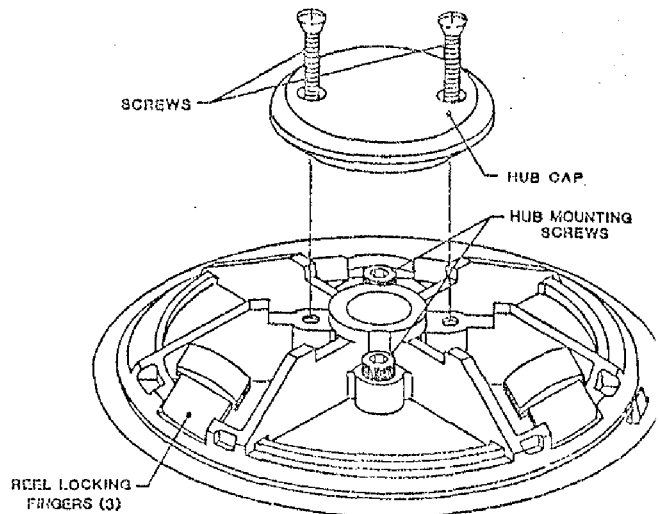

Figure 5-19. Supply Hub Assembly
5.3.23 SUPPLY HUB ASSEMBLY (Figure 5-19)